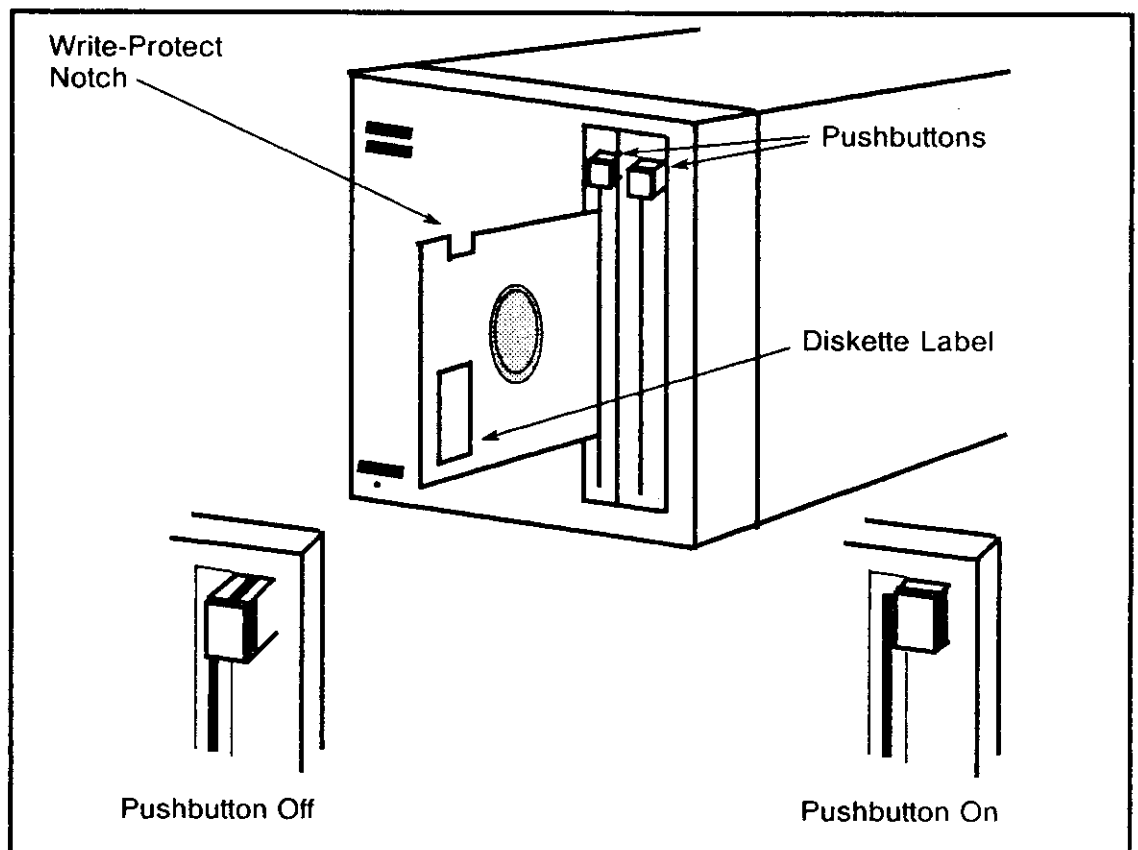

Figure 2.12 Loading the Disk Drive
2. Slowly insert the floppy diskette into the drive with the write protect notch up and the diskette label to the right (Figure 2.12).